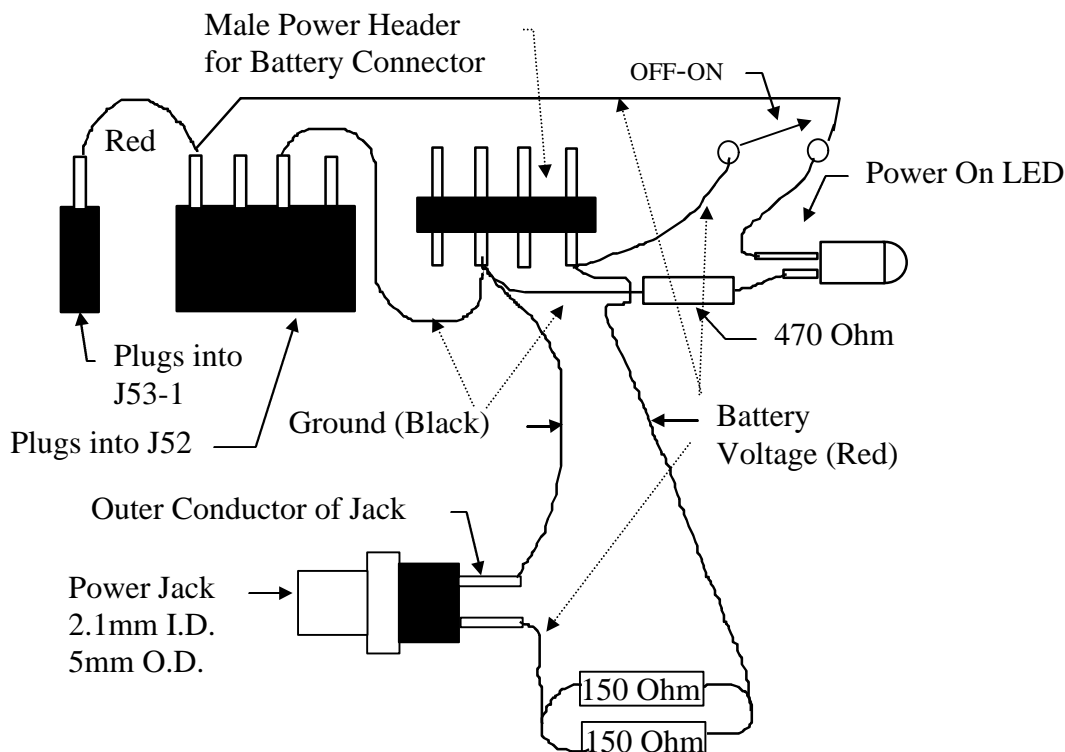
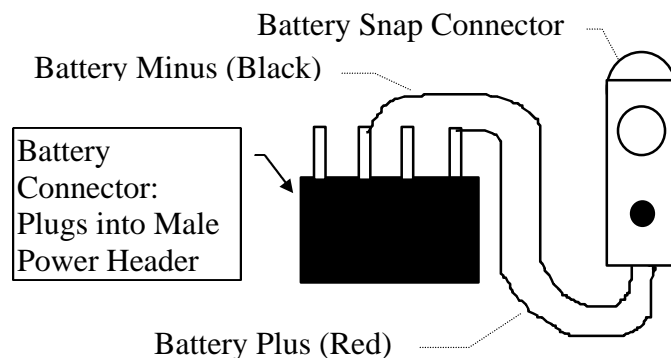

Figure 17 Power Off-On circuitry with male power header and recharge jack.
Figure 18 Battery pack snap connector cable.
4. Wire the LED, the 470 ohm resistor, the *On-Off* switch, the power jack, the male power header, snap connector, battery connector, and the constructed ½ watt, 75 ohm resistor according to the circuit in Figure 10 and depicted in Figure 17 and Figure 18. (Refer to Figure 7 for header connections). Suggested color: All lines that connect to battery plus, or connect to battery plus when the switch is closed, are Red. All ground connections are black.
3. Assuming the MSCC11E2 board has been tested, connect the battery power connector into the male power header which was wired to J52 through the *OFF-ON* switch (refer to Figure 17).